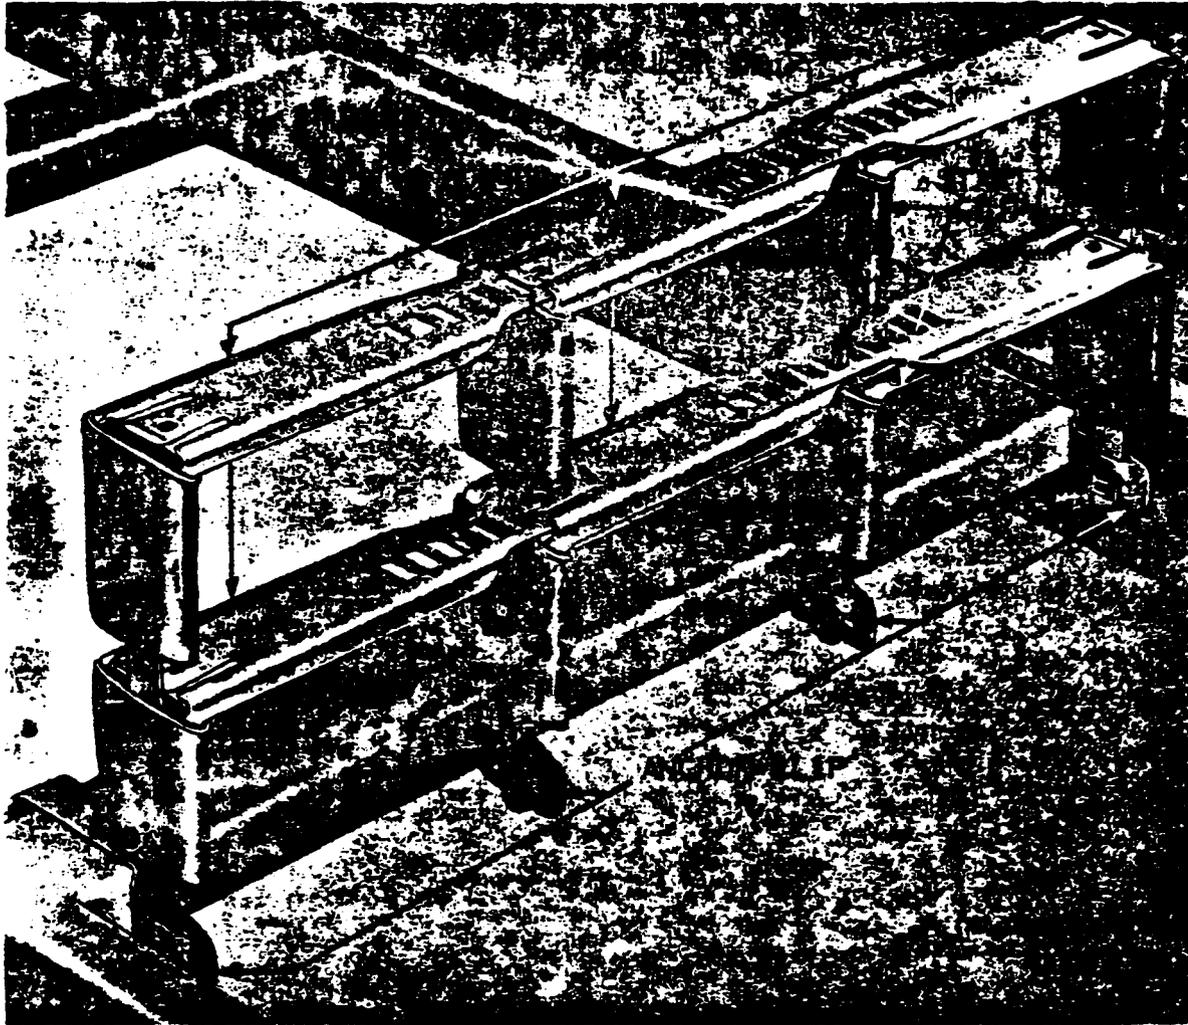

FIG. 4 ASSEMBLED ANCHOR, START AND REGULAR ADJUSTABLE
3.22 Assembled anchor, start and regular adjustable flat type clips are illustrated in Figure 4. Do not reverse the direction of the clips when proceeding from layer to layer. When adding a layer of cables to an existing layer, place the added clips in the same direction as the existing clips; i.e. where the initial ground of a
layer, with its starting clip, is at the right of a run, the succeeding layer should have its initial group at the right also, as shown in Figure 4, so the clips above will face in the same direction as the clips below.